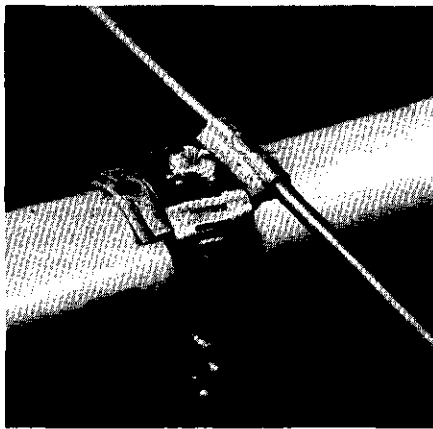

Fig 43—Kenneth Munford's adjustable element mount. The screw is added after final element placement has been determined. See text.
□ One of the more frustrating parts of experimental UHF and VHF Yagi antenna construction is getting optimum spacing and adjustments done without wasting materials or drilling unnecessary holes. My solution to this problem is shown in Fig 43.